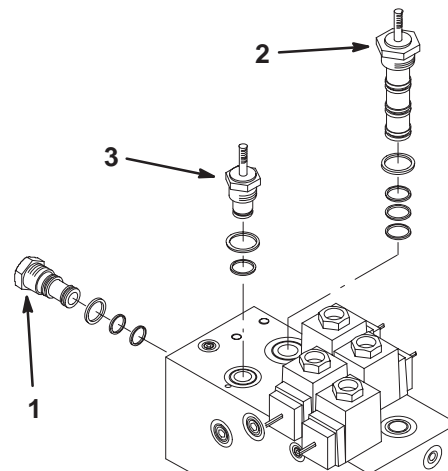

Figure 2
3. Install the logic cartridge to the right side of the manifold assembly (Fig. 2). Torque to 35 ft.-lb. (47 N·m).
4. Install the directional valve to the top of the manifold assembly at the location shown in Figure 2. Torque to 35 ft.-lb. (47 N·m).
5. Install the flow control valve to the top of the manifold assembly at the location shown in Figure 2. Torque to 35 ft.-lb. (47 N·m).